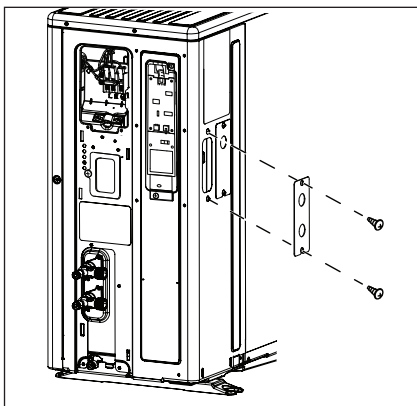

Figure 24 - Remove the conduit plate from the unit.
- 7** On the back side of the unit, locate the conduit plate. Using a Phillips screwdriver, remove the two screws securing the conduit plate to the unit and remove the plate. See Figure 24.